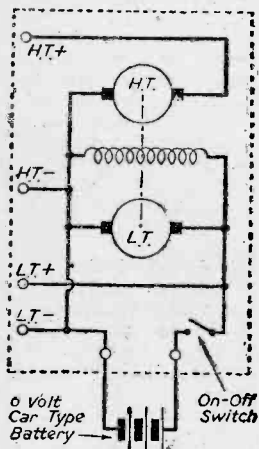

Fig. 2.—Theoretical circuit of a power unit using a rotary transformer rated at 6/200-225 volts at 50mA.
Fig. 2.—Layout for the sound receiver. R11 and R4 pass through the screens, as shown. Above the chassis are VR1, VR2, C21, R16, C24, C27 and the O/P transformer. VR1 must be completely insulated from the chassis.
Turning now to the oscillator circuit the layout as shown in Fig. 2 should be closely followed. The trimmer VC1 is a small air-spaced ceramic insulation variable condenser of maximum capacity 25 pF. and it must be completely isolated from the chassis, that is, from the point of view of both fixed
H.T. is supplied by a rotary transformer. Fig. 2 shows the rotary transformer theoretical diagram. The heaters of the three valves are parallel connected for operation on 6 volts. The rotary transformer unit is best kept separate from the receiver; even without power-unit screening, no radio interference should be experienced if both are 3-4ft. apart. It is, in fact, convenient to have the power-unit on the floor near the battery.